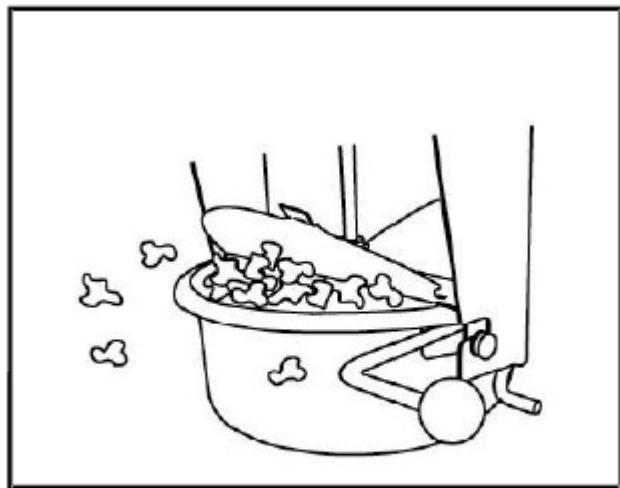

Fig. 4
9. Popcorn starts popping out through the lid after about 2 to 3 minutes. (Fig. 4)
11. Pop switch (II) must remain **OFF** if the unit is not popping. Only the spot light warmer (III) should be left **ON**; this will keep the popcorn warm, dry and tasty for a longer period of time.